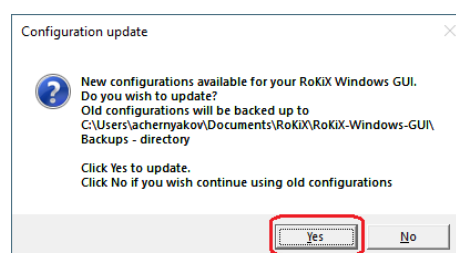

Figure 26. Configuration Updated Popup Window
- ✓ If Configuration update pop-up window is shown, click Yes to download the latest configurations from the server (Figure 26).